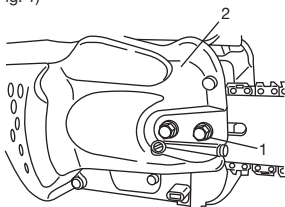

Fig. 1
1. Remove chain bar clamp nuts (1).
2. Remove the side case (2) as pinching the rear part of the side case (2). (Fig. 1)
Then fix the clamp nuts temporarily. (Fig. 1)